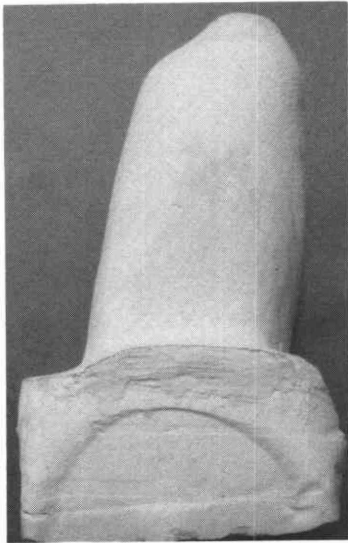

Figure 7. Medial view of modified model.
2. The medial wall will be lower than seat level, and the cast will be the guide as to how low (Figure 7).